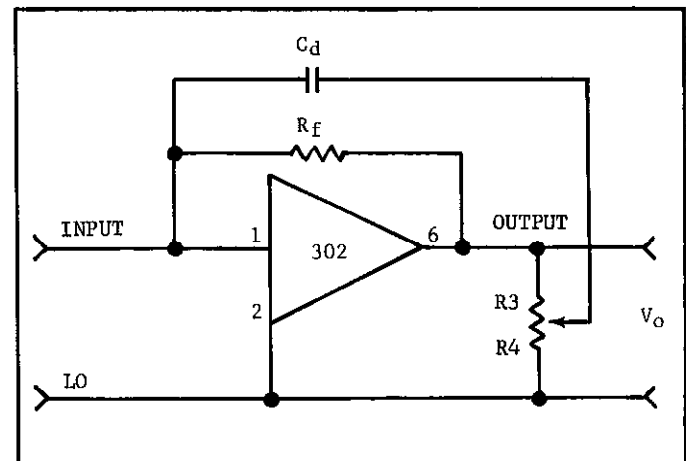

FIGURE 6. Linear Amplifier With Variable Damping.
c. Linear Current Amplifier With Variable Damping. In this configuration, a damping capacitor  $C_d$  is connected between the Input (Pin 1) and the Output (Pin 6) for fixed damping or through a fractional feedback divider composed of  $R_3$  and  $R_4$  as shown in Figure 6.